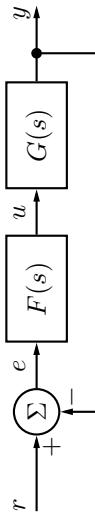

Figure 6.2a
6.2 Assume that we have constructed a controller $F(s)$ for the model $G(s)$, see Figure 6.2a, such that there is no steady state error when the reference signal is a step. Let the real system be given by
and assume that $G^0(s) \rightarrow 0$, $s \rightarrow \infty$. Also assume that the amplitude curve of the closed loop system has no resonance peaks and decreases, at least and asymptotically, with $20 \text{ dB}/20/\text{decade}$ for frequencies over the bandwidth. What is the highest possible bandwidth we can use for the closed loop system in Figure 6.2a, while at the same time guaranteeing stability?